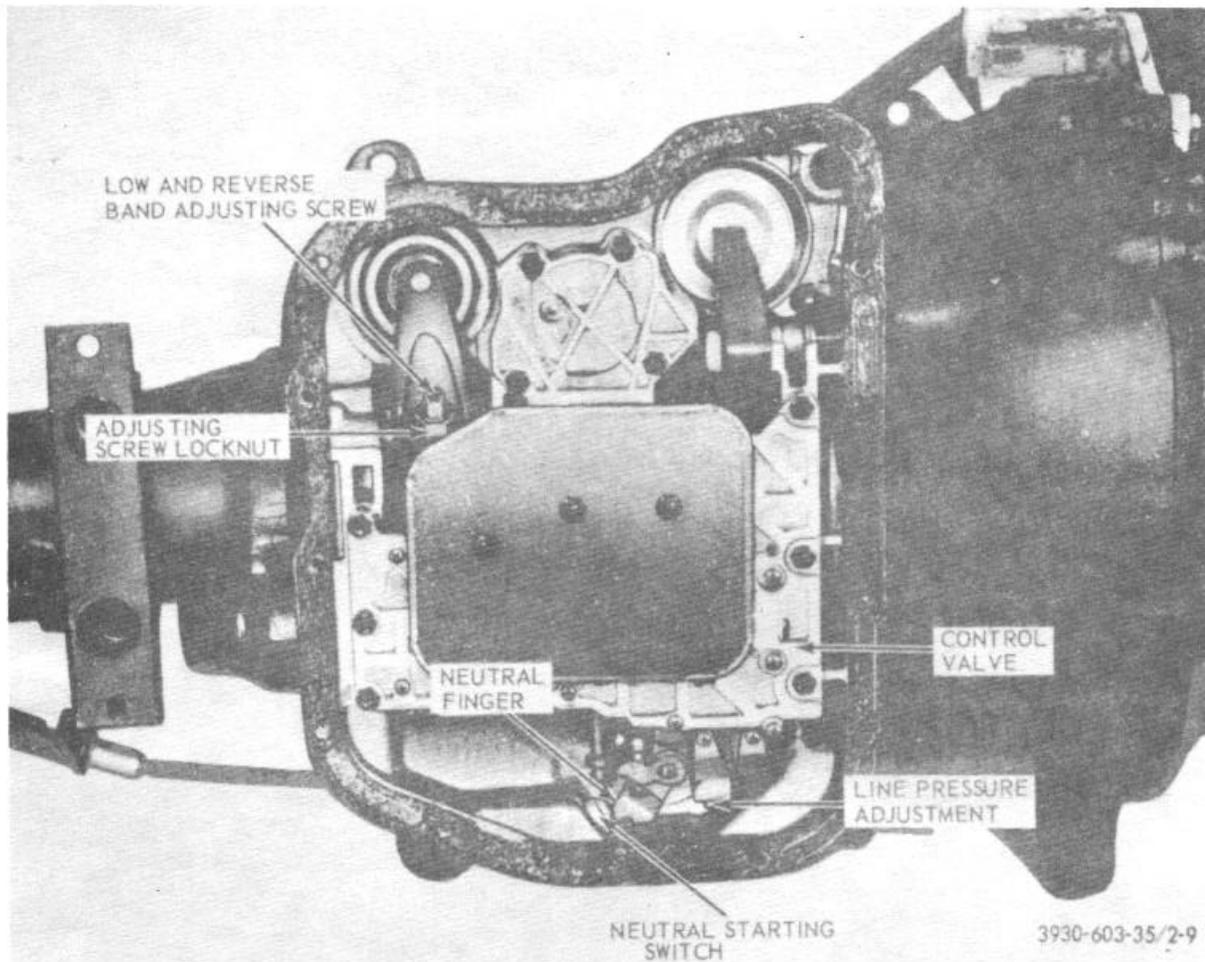

Figure 2-9. Transmission assembly, bottom view, pan removed.
- (3) Loosen adjusting lock screw nut (fig. 2-9) and back off approximately five turns. Check adjusting screw for free turning in lever.